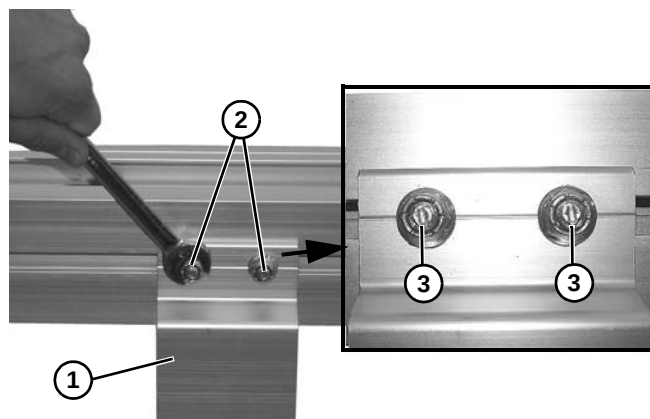

Figure 16
4. Fasten brackets (**Figure 16, item 1**) to conveyor with nuts (**Figure 16, item 2**) on studs. Turn nuts clockwise to rotate studs in side slots.
Be certain that stud slot (**Figure 16, item 3**) is close to vertical when finished tightening nut.
5. Tighten nuts (**Figure 16, item 2**).